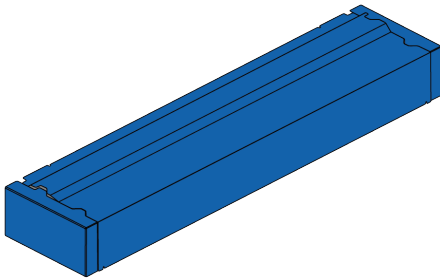

Fig. 20: Front and drive cover (310)
- Complete cover (310) (Fig. 20)